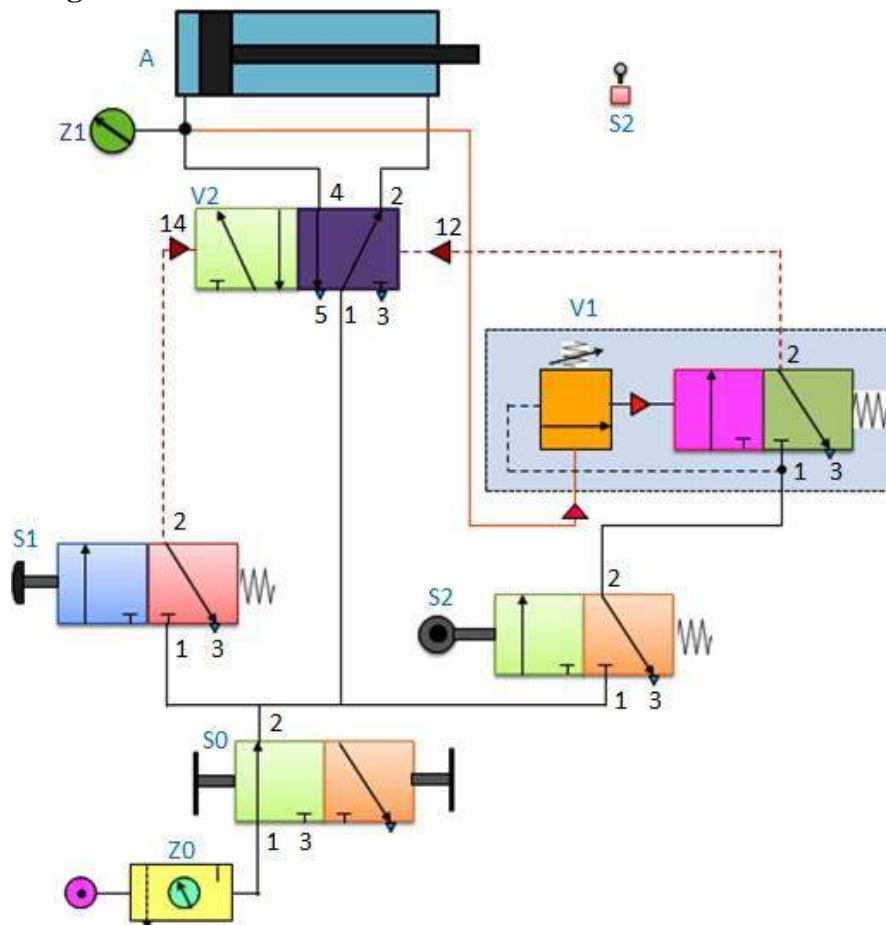

Fig. 6.6.2 Pneumatic circuit for embossing application
The proposed pneumatic circuit diagram for embossing application is shown in fig. 6.6.2. When the push button valve (S1) is pressed, the flow takes place through the valve and a signal is sent to the control port 14 of the direction control valve (V2). The left position of the direction control valve (V2) is switched-on and the flow enters at the piston-end of the cylinder (A). It causes the extension of the cylinder. Even if the push button is released the position of the DCV (V2) will not change due to its memory function. As the piston nears the end position, the roller valve (S2) is actuated and pressure line is connected to the pressure sequence valve (V1). During the embossing process the pressure at the piston-side of the cylinder (A) increases. This increase in pressure is indicated by the pressure regulator (Z1). When the pressure reaches to its pre-set value in the pressure sequence valve (V1), the 3/2 valve of pressure sequence valve switches and the signal is applied to port 12 of the DCV (V2). The right position of the DCV is actuated and the piston retracts. During the retracting movement, the roller valve (S2) is released and the signal at the control port 12 of the DCV (V2) is reset and the pressure sequence valve is also reset.